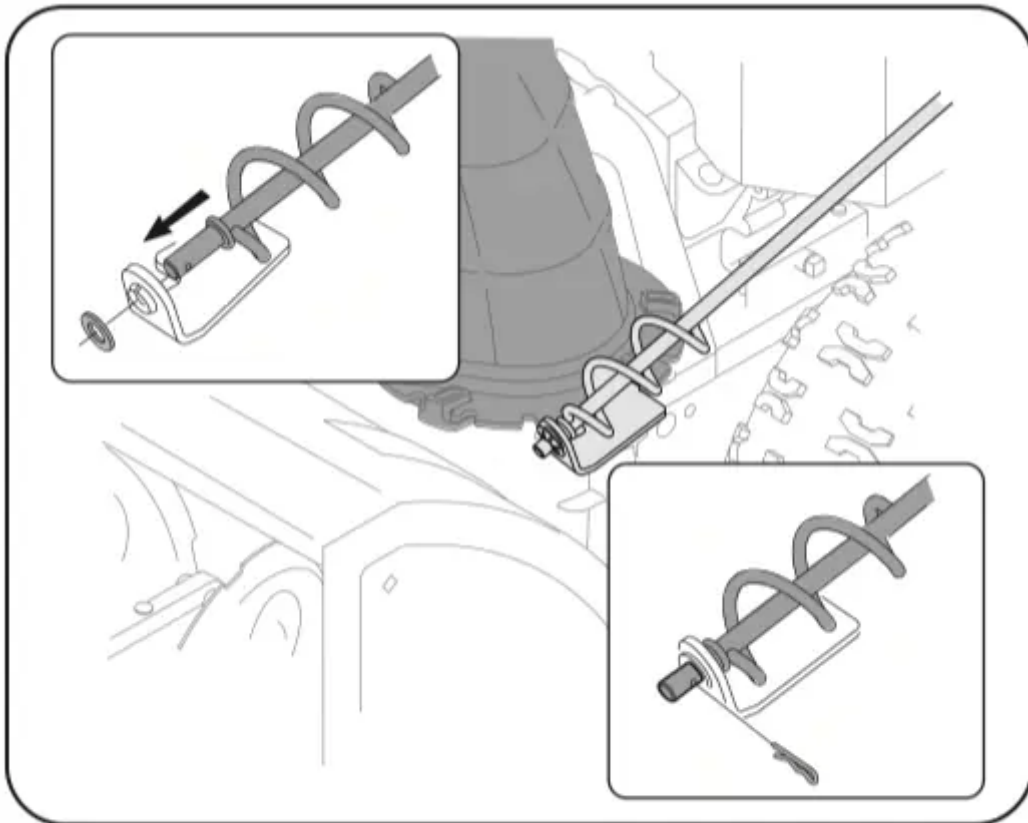

**Figure 10**
2. Close flange keepers to secure chute assembly to chute base. Flange keepers will click into place when properly secure. See “Figure 10”10.